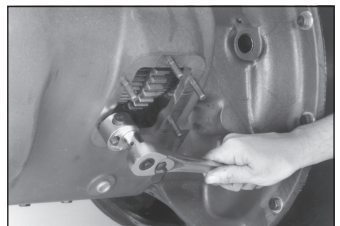

Fig. 5
4. Install the proper studs (furnished with P.T.O.) in the P.T.O. aperture pad using a stud driver. Studs may have either interference fit threads (plain) or preapplied locking/sealing compound (See Figure 5 for installation method).